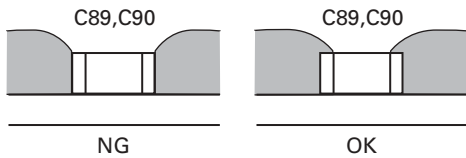

Fig. 9-1
2. Solder the terminals until the electrodes of the chip are fully covered. (Refer to Fig. 9-1.)